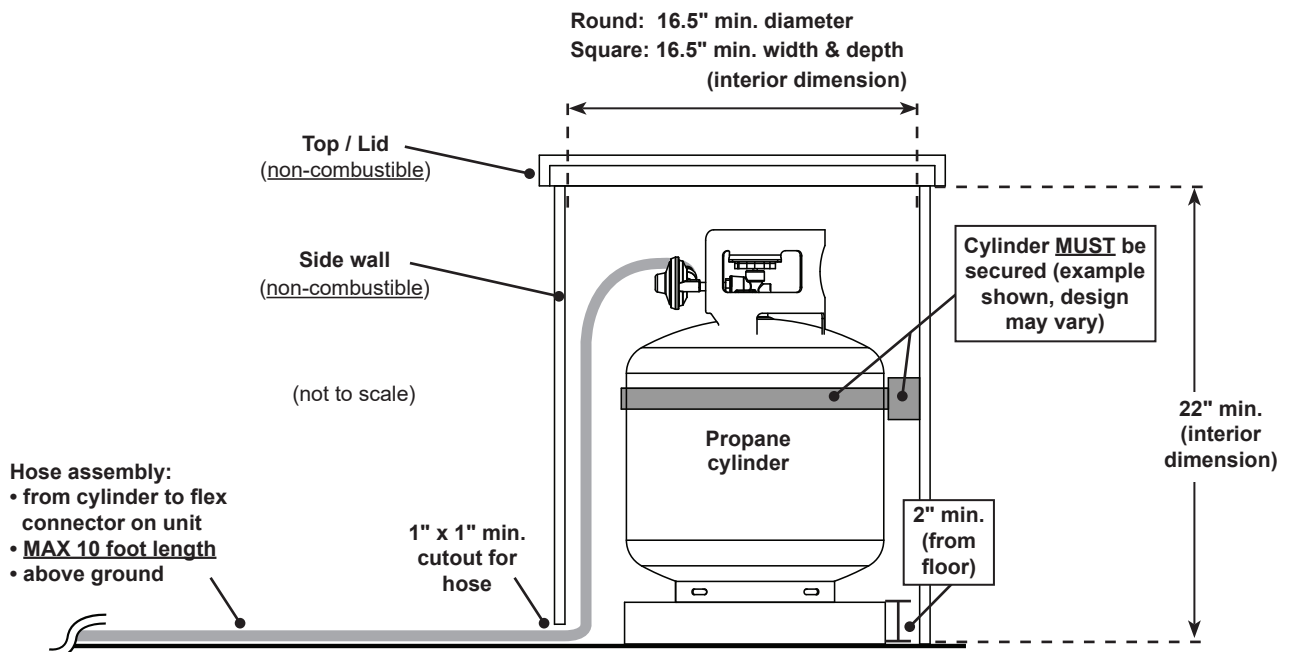

Fig. 17-1 Propane cylinder enclosure specifications (side view)
The cylinder enclosure can be constructed according to your individual preference, while following all guidelines found in this manual. **The enclosure MUST** (see Fig. 17-1):
- have minimum dimensions as illustrated in Fig. 17-1